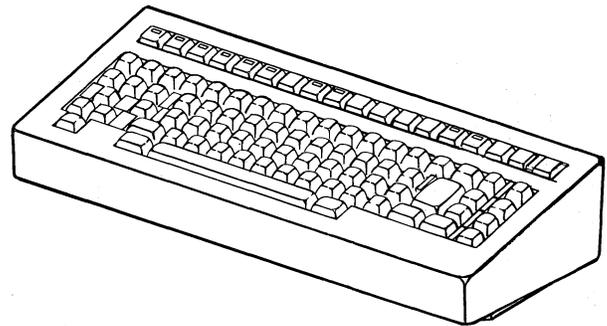

Fig. 1—Typical KD Opcon
1.01 This section provides a general description and operation for the two basic types of DATASPEED 40 KD and ROP operator consoles (opcons), shown in Fig. 1 and 2. There are three basic KD opcons with keyboards: 40K101 for asynchronous 40/1, 40/2, and 40/3 application; 40K104/40K203 (external numeric entry); and 40K105 (internal numeric entry) for synchronous 40/4 applications. There are also three ROP opcons: 40K001, 40K004 (replaces 40K001), and 40K003.